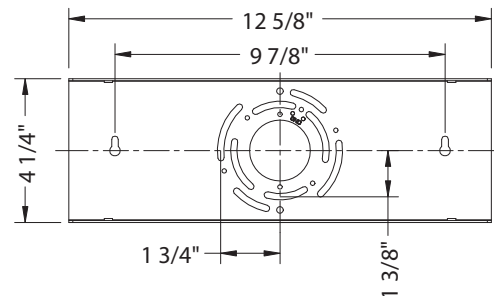

Fig. 3
3. Remove the canopy screw (C) from the ceiling plate.
4. The lamp can switch between four color temperatures (2700K-3000K-3500K-4000K), which can be adjusted to your preference with the switch in the canopy (Fig.3).
9. Due to limited space within the canopy, shorten the cable as necessary to make the installation easier. Make sure to identify and label all the wiring properly before any trimming/shortening. (Fig. 3)
11. Connect the driver's input/output wires to junction box wires and 3CCT switch wires as shown in Fig. 2/Fig. 3. Ensure all wire connectors (A), (B) are secure. Connect the fixture's ground wire to the ground in the junction box; this will be either a green wire or a bare copper wire. After wires are connected, tuck them carefully inside the junction box.
DIMMING WIRING INFORMATION (Fig. 3)